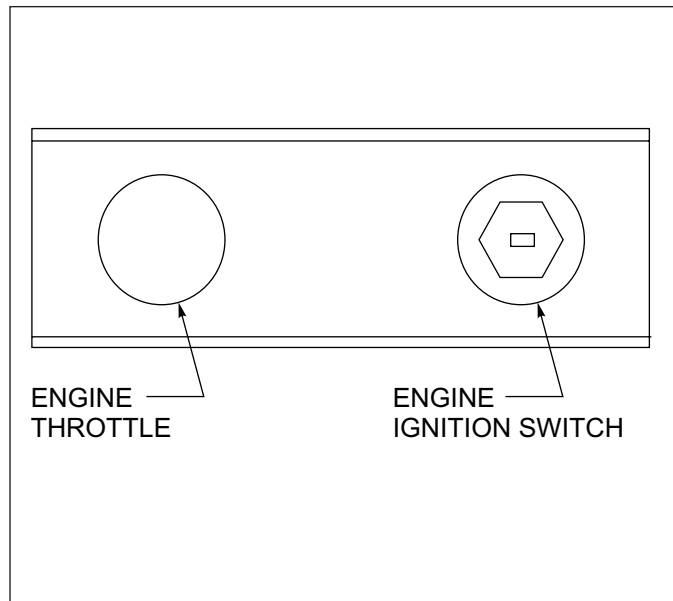

Figure 3-12: Engine Control Panel
1. The Engine Ignition Switch (*See Figure 3-12*) is located on the engine control panel on the driver's side of the semitrailer. Use the key to start and stop the Hydraulic Power Supply Engine. The Engine Ignition switch has three positions (*See Table 3-6.*)
2. The Hydraulic Power Supply Engine throttle is located on the driver's side of the semitrailer. The Engine Throttle controls the speed at which the engine operates (*See Figure 3-12.*) It is a variable position control: